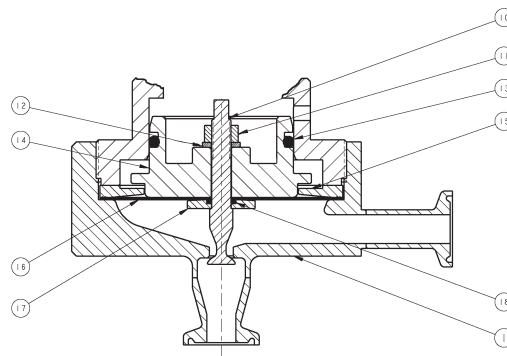

FIGURE 1: Diaphragm & Plug Subassembly
3. Refer to Figures 1 and 2 for basic regulator, item number reference ().
1. Secure the body (1) in a soft-jaw vise using the flats on the sides of the body. Orient the knob (3) upwards.
2. Relax compression on spring (8) by turning knob (3) CCW until removed from spring chamber. Not necessary to rotate nut (5). Remove name plate.
3. Loosen spring chamber (2) by placing wrench on flats of spring chamber and rotating CCW making sure not to use flats on either side of vent hole.
4. Remove spring chamber, ball (6), spring button (7) and range spring.
5. With a wrench, secure the flats on the plug (10). Using a 7/16" wrench rotate nut (11) CCW to remove nut and lock washer (12). **Do Not rotate the plug.** See Figure 1. Remove pressure plate (14). **NOTE:** For Model PA1: when nut is removed the plug (10) may slide out thru the bottom, inlet connection. Do not let plug fall and damage seat surface.